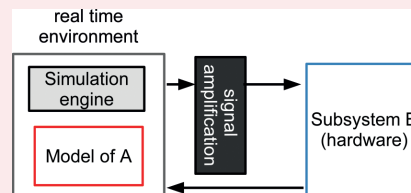

Figure 3. HiL Testing of Subsystem B
With the advent of more powerful computational tools, real-time simulation of Electromagnetic Transient or Dynamic Phasors (DP) for large-scale electricity became feasible over the past two decades. This enables Hardware in the Loop (HiL) testing, the concept of which is shown in Fig. 3. The main principle is to include as much as the overall model into the real-time environment as technically feasible, and have the device under test as subsystem B placed in the lab. The real time simulator produces signals sampled at 50 μ s at its analogue output interface. The signals commonly range from -10V to 10V, and might, depending on the type of hardware connected, require appropriate amplification. The response of the subsystem is subsequently captured and looped back